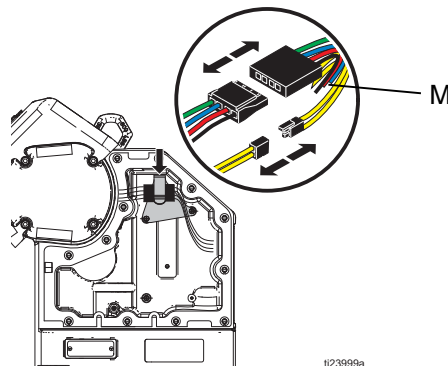

FIG. 19: Motor Wires
- Motor power and motor temperature sensor. See FIG. 19 on page 16.